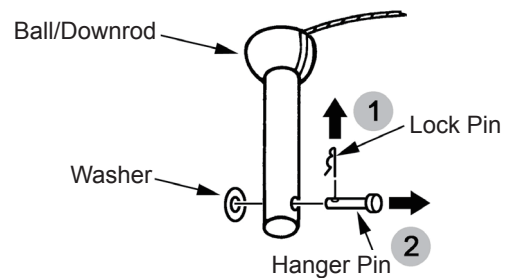

Figure 5.3
Step 3. Prepare the fan to be hung. Locate the Ball/Downrod. Remove the Lock pin (1) and Washer, then slide the Hanger pin (2) out. (Fig. 5.3)